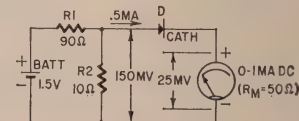

Fig. 2—Tunnel-diode test circuit.
3. Take into account the voltage drop across the current meter when testing a diode. The milliammeter or microammeter used in the test has a definite internal resistance which introduces a voltage drop into the circuit. Thus, in Fig. 2, the output voltage across the 10-ohm leg of the voltage divider (R_2) is 150 mv—one-tenth of 1.5 volts—and the observed current is 0.5 ma. However, the diode bias is not 150 mv, because 0.5 ma produces a voltage drop of 25 mv across the 50-ohm milliammeter, but is $150 - 25 = 125$ mv. Since the internal resistance of the meter is in series with the diode, it can influence the latter's response. Therefore, always use the lowest-resistance current meter obtainable.